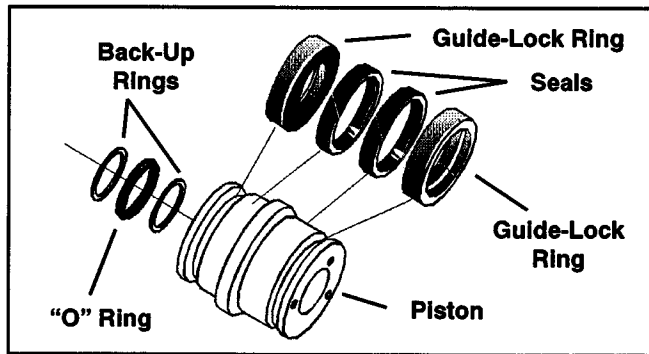

Figure 2-10. Piston Seal Kit Installation.
12. Place new guidelocks and hydrolock seals in the applicable outside diameter grooves of both the piston and the cylinder head. Refer to Figure 2-10.